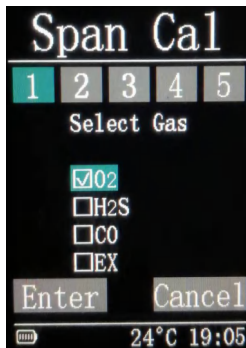

fig 25
- i. Only one sensor can be calibrated each time, as shown in Fig.25.